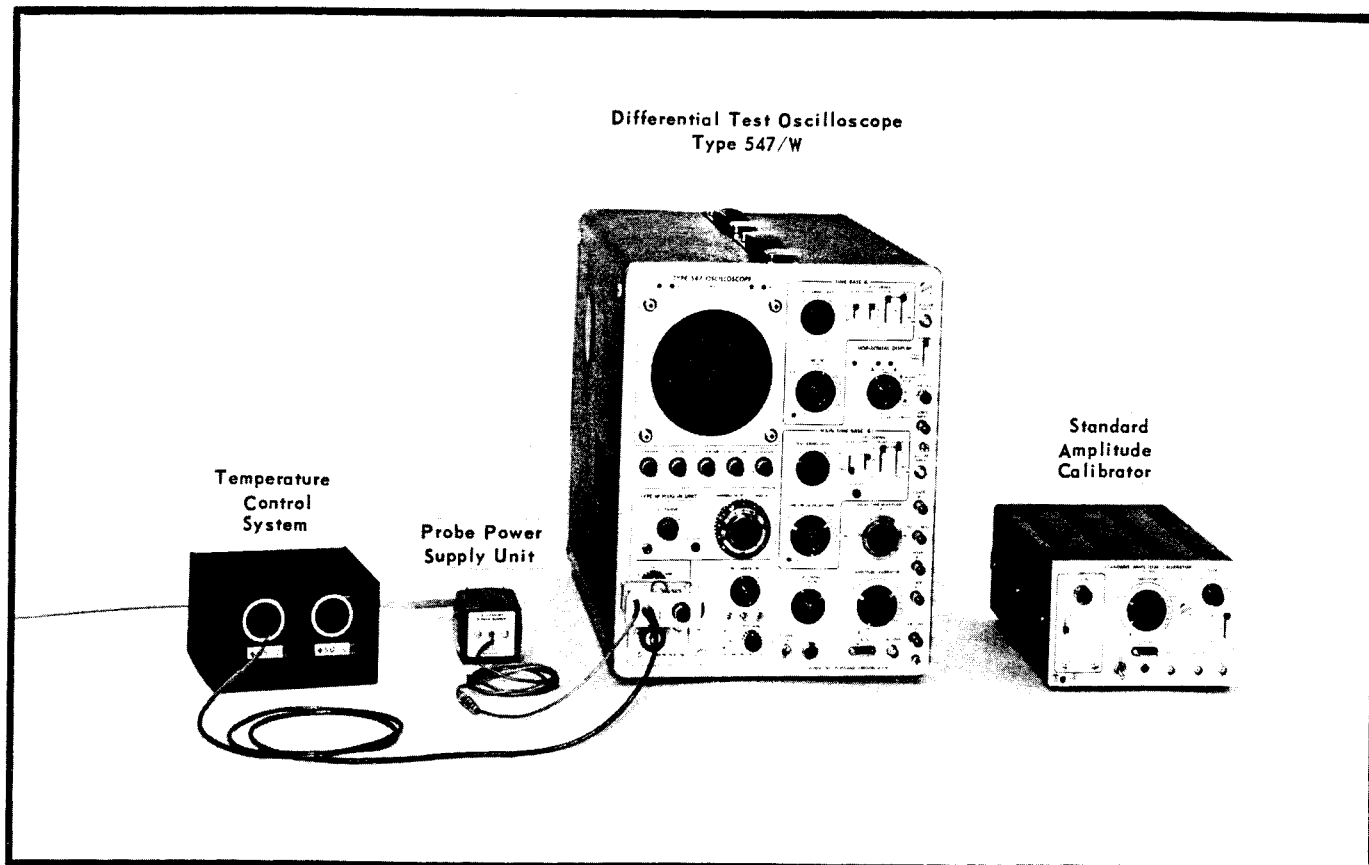

Fig. 5-2. Initial test equipment setup.
12. Set the instrument controls as given following Fig. 5-2.